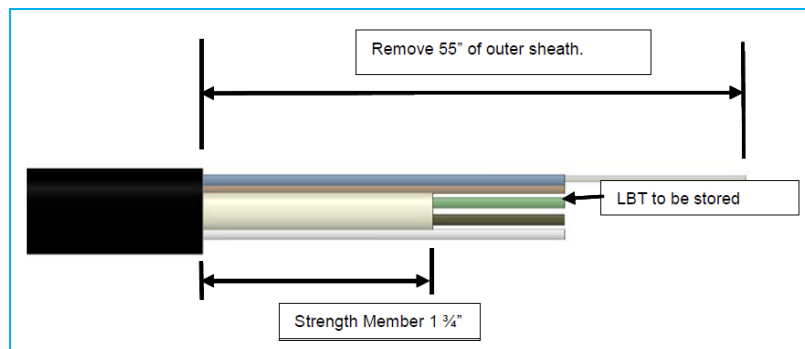

Figure 4
5.1.3.1 Remove **55"** of outer sheath from end of cable. See Figure 4.
5.1.3.2 Cut strength member(s) **1 3/4"** from end of sheath openings. See Figure 4.